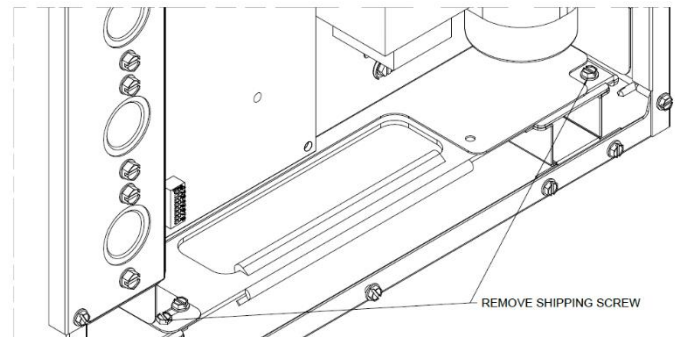

FIGURE 7 - Removal of Shipping Screws
- 11) Ensure that shipping screws are removed from condensing section. Refer to **FIGURE 7 - Removal of Shipping Screws** for more information.